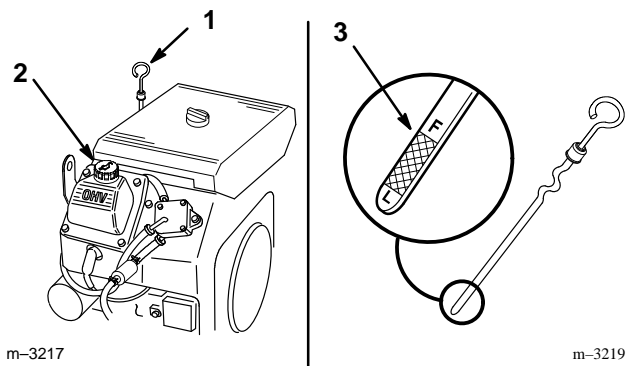

Figure 24
2. Clean around the oil dipstick (Fig. 24) so dirt cannot fall into the filler hole and damage the engine.
3. Pull the oil dipstick out and wipe the metal end clean (Fig. 24).
4. Slide the oil dipstick fully into the filler tube. Pull the dipstick out and look at the metal end (Fig. 24). If oil level is low, slowly pour only enough oil into the filler tube to raise the level to the “FULL” mark.